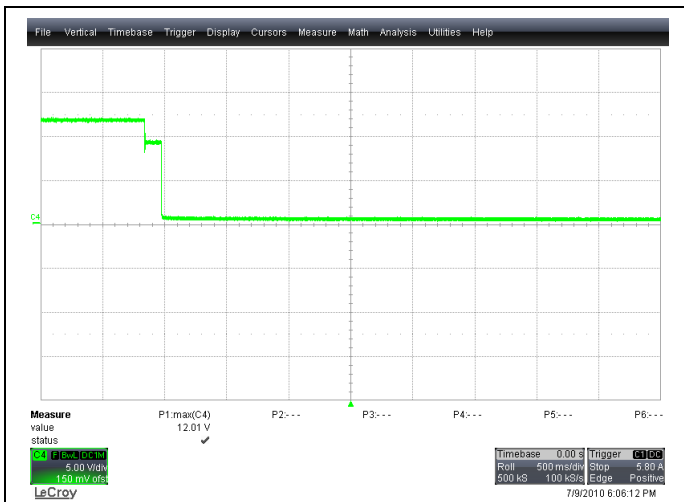

Figure 39 - Latching VS1 Under Voltage Protection (set to 9.2V)
- A. **Under Voltage Protection (UVP):** Figure 39 and Figure 40 show latching and hysteretic UVP respectively.